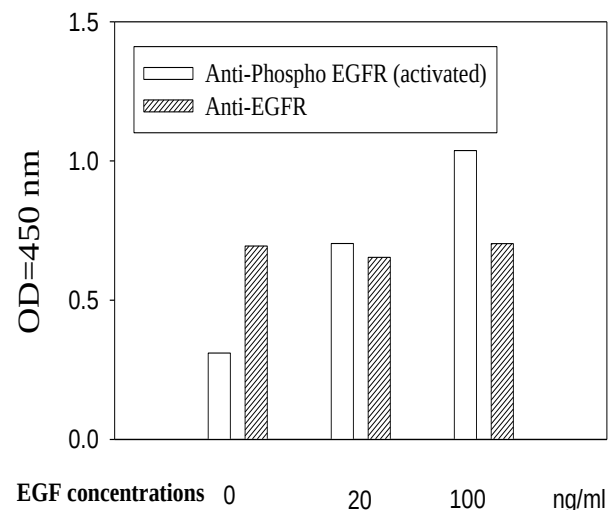

Fig. 3. A431 cells were stimulated by different concentrations of EGF for 20 min at 37°C
2. Added 50 μL of different concentrations of stimulators (rhEGF concentration for A431 cells: 0, 20, or 100 ng/mL in serum free DMEM) to appropriate wells (see Figure 3). Then incubated for 10, 20, or 30 minutes at 37 °C.